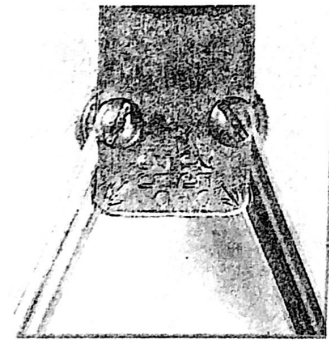

Figure 9A
**Step 1:** Open the arms of the folding steel so that the inside of the rods evenly line up to the point of the arrows (see Figure 9A).